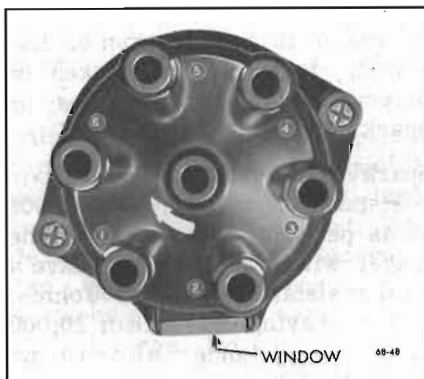

Figure 68-48—Installing Spark Plug Wires in Cap - 225 Engine
5. Install distributor cap. Make sure that spark plug wires are correctly installed in distributor cap, through clips on rocker arm covers, and on spark plugs. See Figure 68-48, 49 or 50.
No. 1 spark plug wire is installed in the first distributor cap tower after the adjusting window, moving in the direction of rotation. The other wires are then installed in a clockwise direction according to the firing order. See Figure 68-48, 49 or 50.